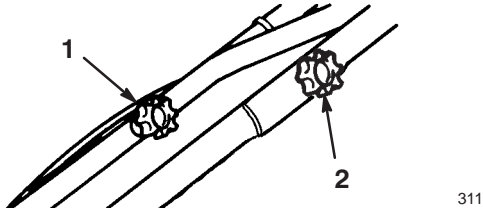

Figure 2
2. Remove the left knob and bolt (Fig. 2).
3. Install the left knob on the **inside** of the handle (Fig. 2).